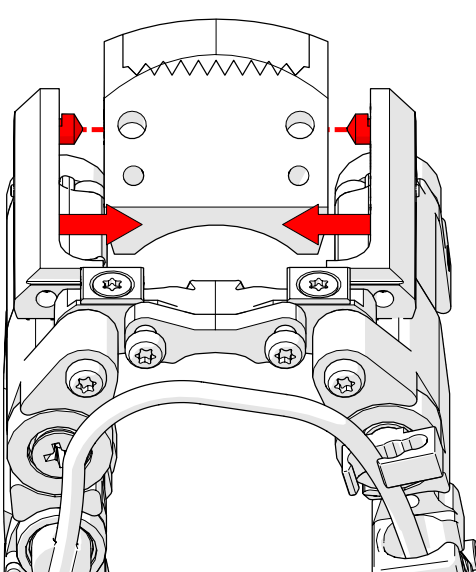

Fig. 55 - Install wedge
6. Slide the probe holder arms around the wedge. Line up the pivot holes of the wedge with the probe holder arm pivot buttons (Fig. 55).